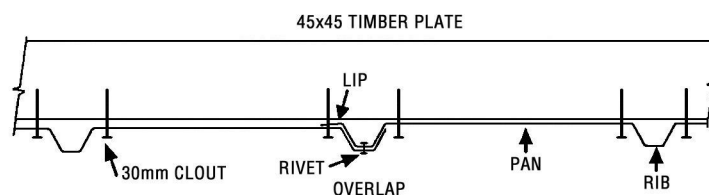

fig. 1
Step 6: Position a Jack Stud on each end of Ridge Beam and nail in place using two 75mm nails each end (**fig. 1**). Turnover Ridge Beam / Jack Studs, position centrally on 2.545m Top Plates and nail to Top Plates using two 75mm nails per Jack Stud.
When fitting Gable End Sheets ensure they overlap correctly (*fig 1*).
Step 2: Back Wall: Position the first Wall Sheet with the LIP on the right hand side. Ensuring the LIP is flush with the side of the Studs and the top of the Wall Sheet is flush with the top of the Top Plate, tack in place. Position the next Wall Sheet with the LIP on the right hand side. Overlap as shown in (fig 1). Ensuring Wall Sheet is flush with top of Top Plate, tack in place. Repeat with remaining sheet.
- Step 2:** Where the Clear Roof Panel is to be positioned, nail a 45x45mm Bevelled Edge Support on each side of the Ridge Beam. (*fig. 1*)